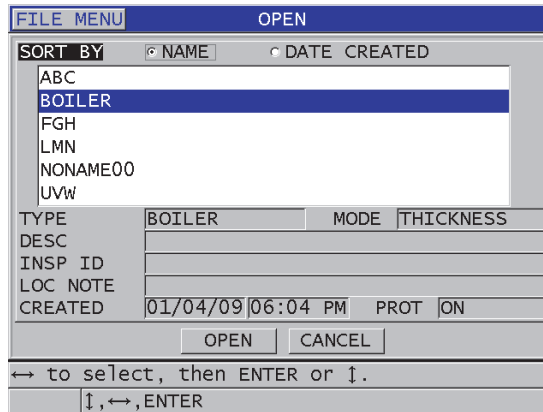

Figure 11-16 Opening a file
3. In the **OPEN** screen (see Figure 11-16 on page 203):